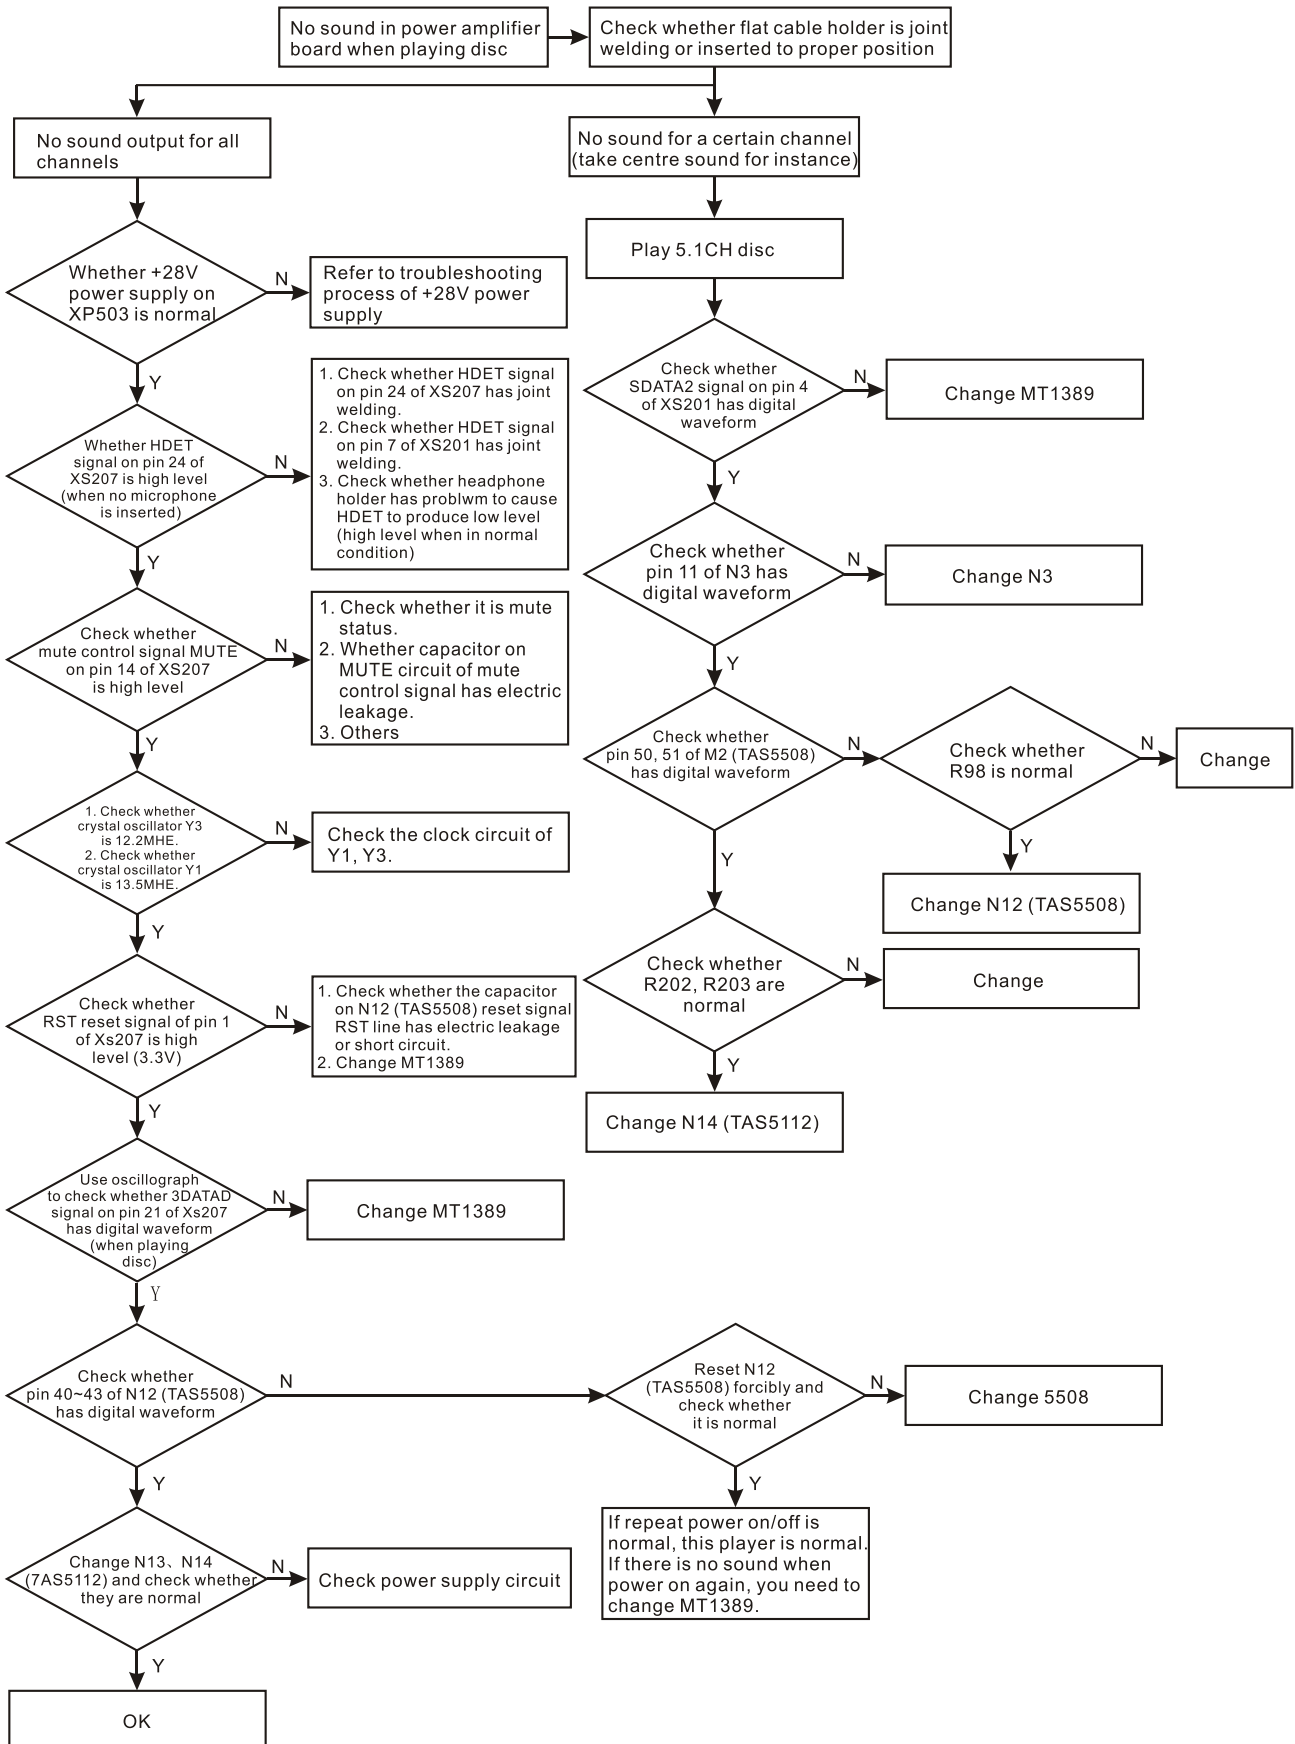

Figure 3.5.5.1 Troubleshooting process for no sound of power amplifier board when playing
3.5.5 Troubleshooting process for no sound of power amplifier board when playing is shown as the following figure 3.5.5.1: